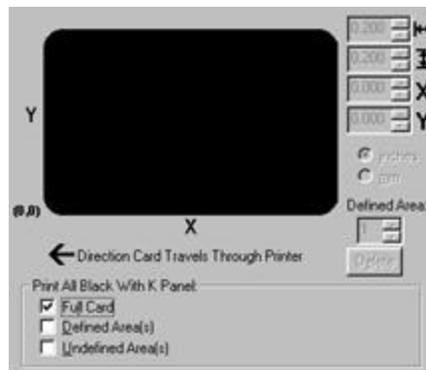

Figure 3-8
1. Select the **Full Card** option to print the resin black (K) panel for all black found within all areas of the image. See Figure 3-8.